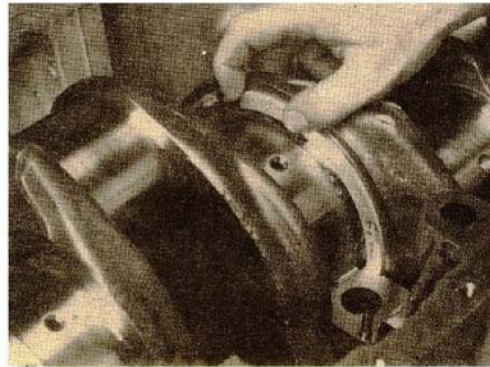

Fig. 14-4, Install the upper thrust bearings
5. Lubricate the upper thrust bearing halves and slide into position around the no. 6 main bearing journal. Fig. 14-4.